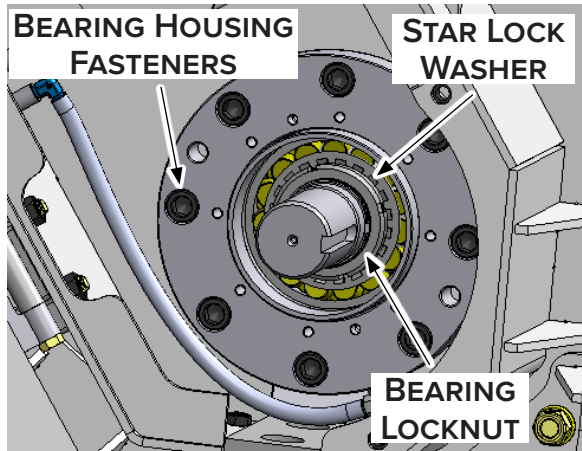

Figure 23
13. With a 14 mm Allen key, torque the bearing housing fasteners to 175 lbf·ft (236 N·m) with a medium strength threadlocker. See Figure 23.